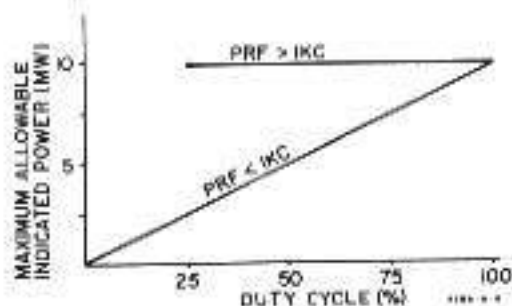

Figure 2. Maximum Power Meter Reading vs Duty Cycle for Pulses Longer than 250 μ sec
15. For pulses longer than 250 μ sec, the peak limitation can be expressed in terms of PRF: 10 mw for a PRF below 1 kc, 40 mw for a PRF 1 kc or above, provided 30 mw average is not exceeded. In Figure 2, the peak power limit is translated into power-meter reading versus duty cycle.